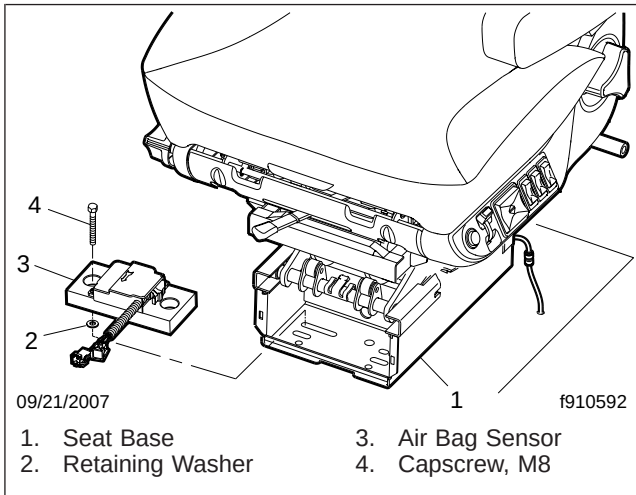
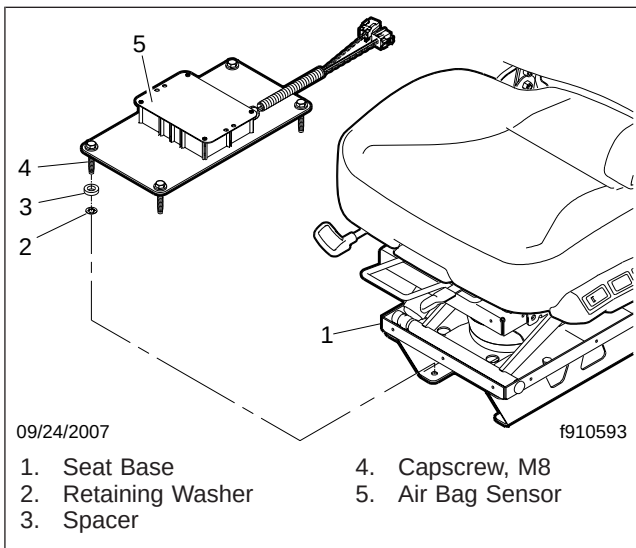

Fig. 1, Air Bag Sensor Installation, Cascadia Seat
Fig. 2, Air Bag Sensor Installation, Atlas Seat
5. Remove the M8 capscrews that attach the air bag sensor to the seat and to the cab floor; see Fig. 1 (Cascadia seat) or Fig. 2 (Atlas seat). Remove the air bag sensor.